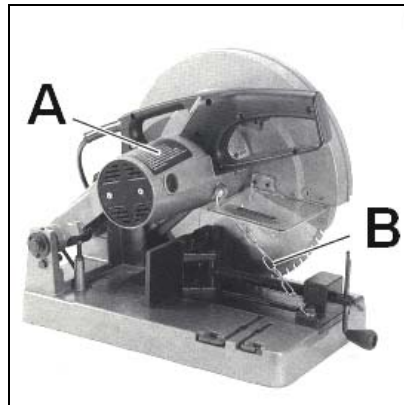

Fig 2
Unlock the chain (B, Fig 2) and allow the cutting head (A) to rise slowly.